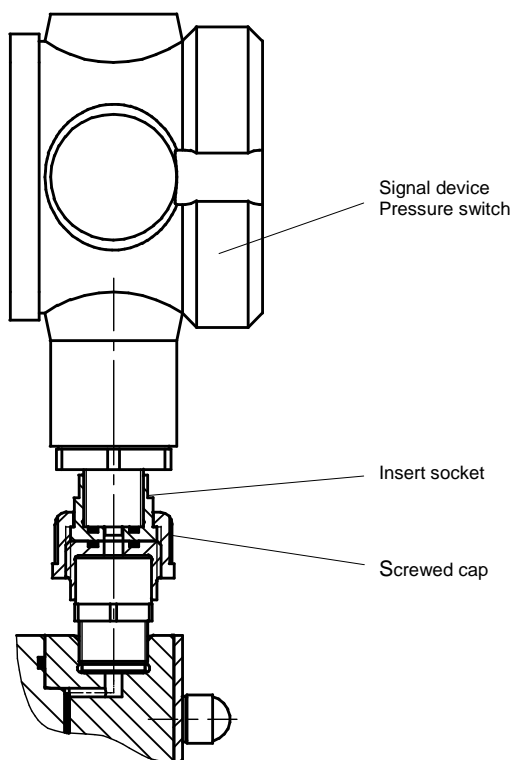

Fig. 41
- Release union nut and remove the signal device (see Fig.41/42).